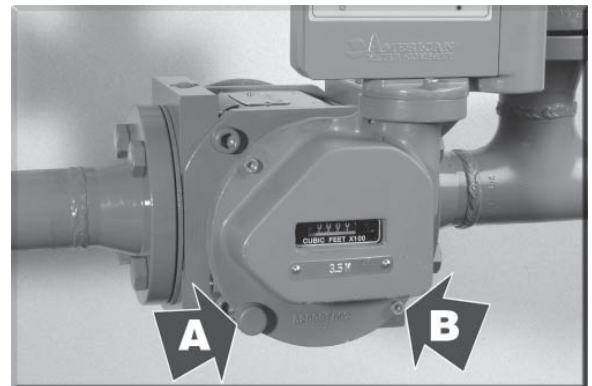

Fig. 6 Security Cap Seal & Mounting Screws
- Remove security seal cap (Fig. 6 “A”), p/n 52548P013, from register cover mounting screw with pliers.
- Remove three M6 register cover mounting screws (Fig. 6 “B”), p/n 52533P020, holding the register cover to the case cover using 5mm Allen wrench.
- Mount register cover securing with three M6 screws (Fig. 6 “B”)., p/n 52533P020, placing new security seal cap on lower left screw (Fig. 6 “A”).